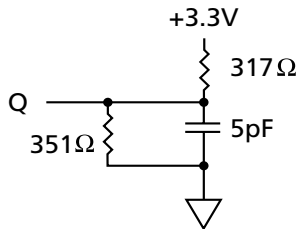
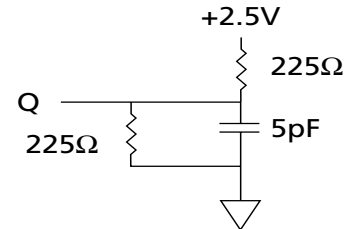

Figure 2
Figure 4
- The load used for V_{OH}, V_{OL} testing is shown in Figure 4 for 2.5V I/O. AC load current is higher than the shown DC values. AC I/O curves are available upon request.
3. This parameter is measured with the output loading shown in Figure 2 for 3.3V I/O and Figure 4 for 2.5V I/O.